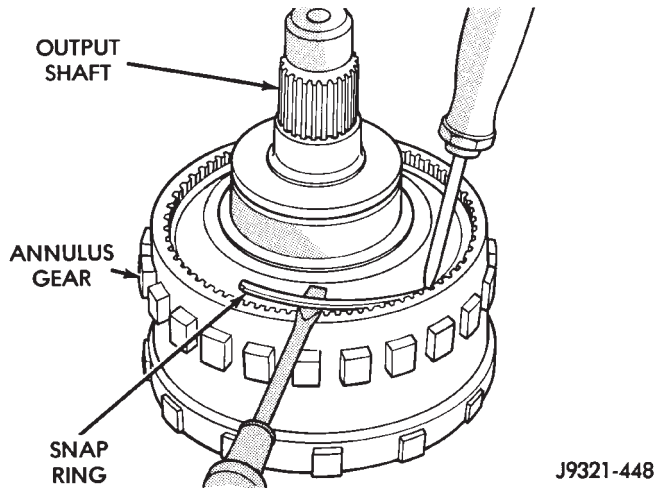

Fig. 218 Annulus Gear Snap Ring Removal
- (10) Remove snap ring that secures annulus gear on output shaft (Fig. 218). Use two screwdrivers to unseat and work snap ring out of groove as shown.